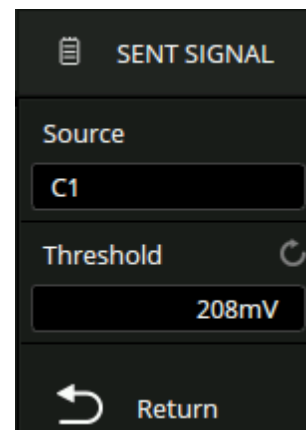

Figure 10.50
1. The **SENT SIGNAL** menu will be displayed. (Figure 10.50)